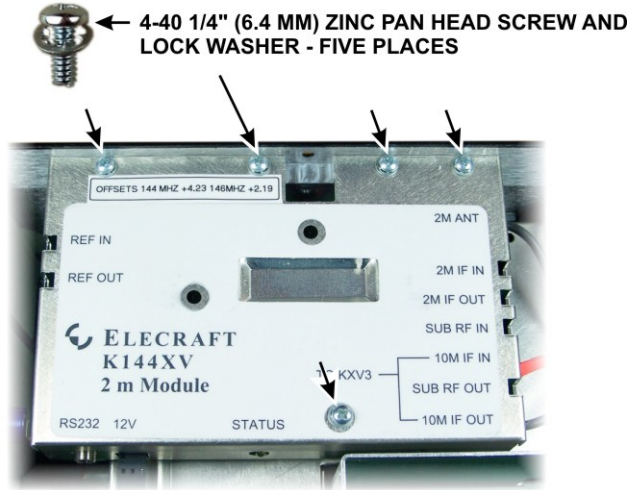

Figure 2. Removing the K144XV Top Cover
□ The K144XV module is mounted on the left side panel of the K3. Remove the five screws shown in Figure 2 and lift the top cover off of the module. Note: Some units may have a sixth screw in the hole near the Elecraft name on the top cover that must be removed.
□ Replace the K144XV top cover, screws and lock washers (see Figure 2).